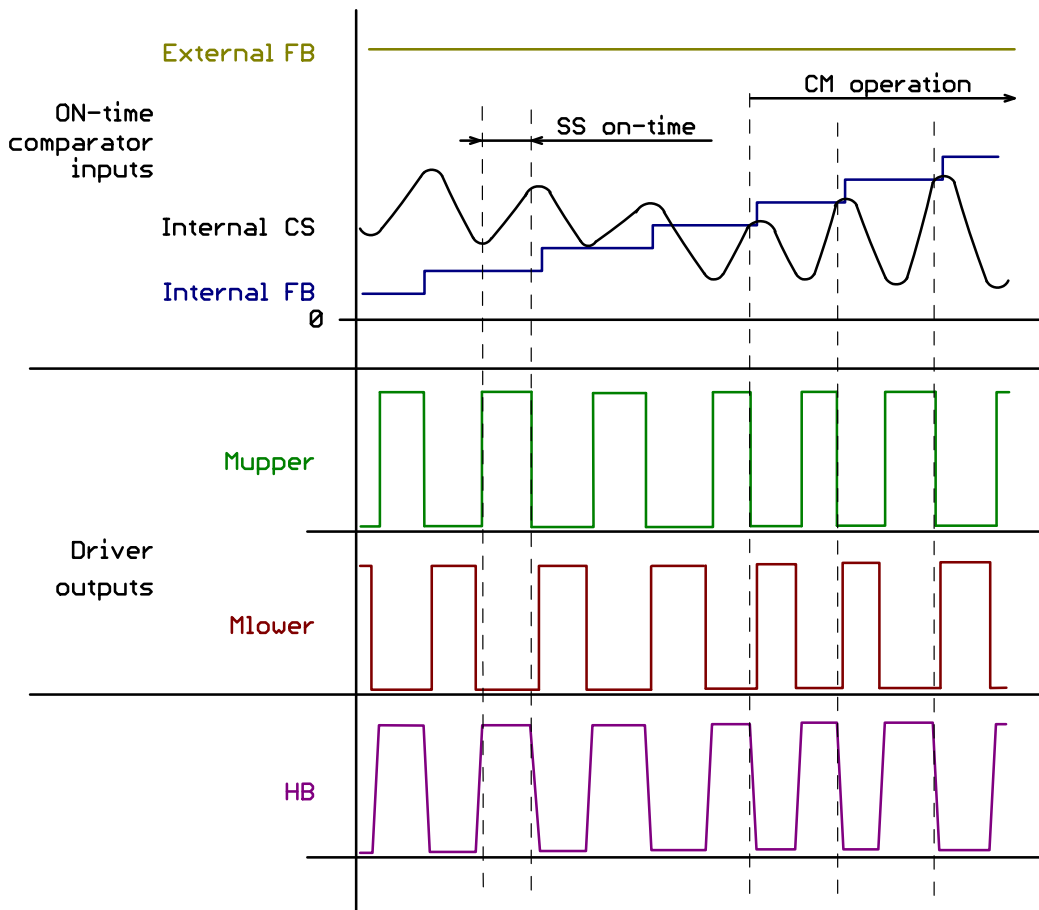

Figure 45. Soft Start Behavior
4. The *Soft-Start D/A converter* generates a soft-start voltage ramp for ON-time comparator input synchronously with Soft-Start counter incrementing. The internal FB signal for ON-time comparator input is artificially pulled-down and then ramped-up gradually when soft-start period is placed by the system – refer to Figure 45. The FB loop is supposed to take over at certain point when regulation loop is closed and output gets regulated so that soft-start has no other effect on the on-time modulation. The Soft-Start counter continues counting-up until it reaches its maximum value which corresponds to the IC maximum on-time value – i.e. the IC minimum operating frequency. The Soft-Start period is terminated (i.e. counter is loaded to its maximum) when the FB pin voltage drops below $V_{FB_SKIP_IN}$ level. The D/A converter output evolve accordingly to the Soft-Start counter as it is loaded from its output data bus.